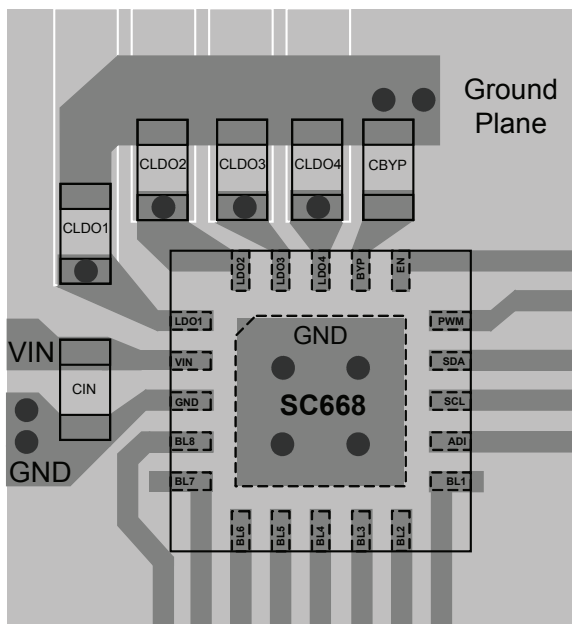

Figure 16 — Recommended PCB Layout
The layout diagram in Figure 16 illustrates a two-layer PCB layout for the SC668 and supporting components. Following fundamental layout rules is critical for achieving the performance specified in the Electrical Characteristics table. The following guidelines are recommended when developing a PCB layout:
- The following capacitors — $C_{LDO1'}$, $C_{LDO2'}$, $C_{LDO3'}$, $C_{LDO4'}$, and C_{BYP} should be grounded together. Connect these capacitors to the ground plane at one point near the SC668 as shown in Figure 16.